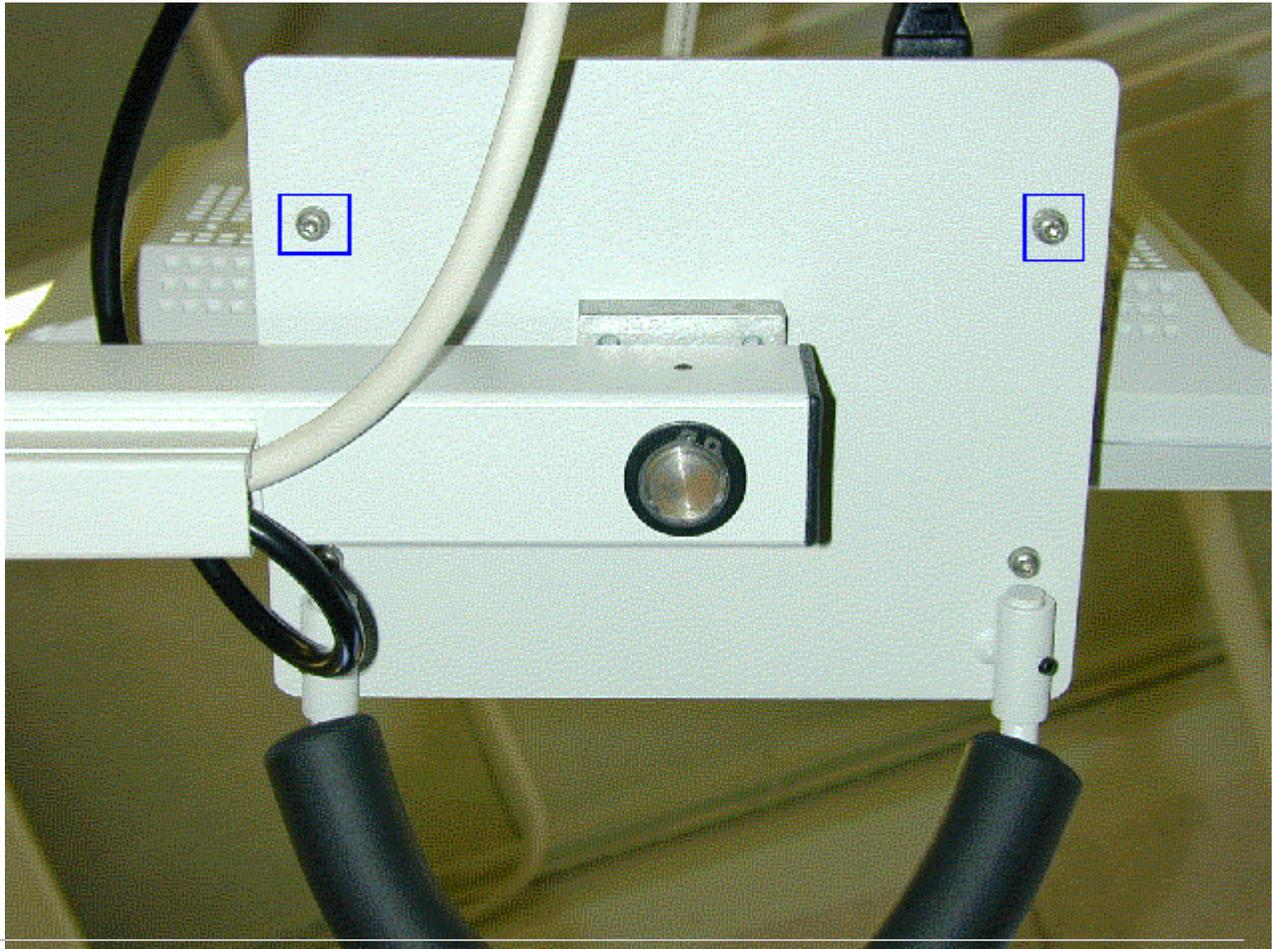

Figure 2.
2. On the monitor tray loosen (do not remove) the back two monitor mounting screws highlighted in blue in figure 2 below.